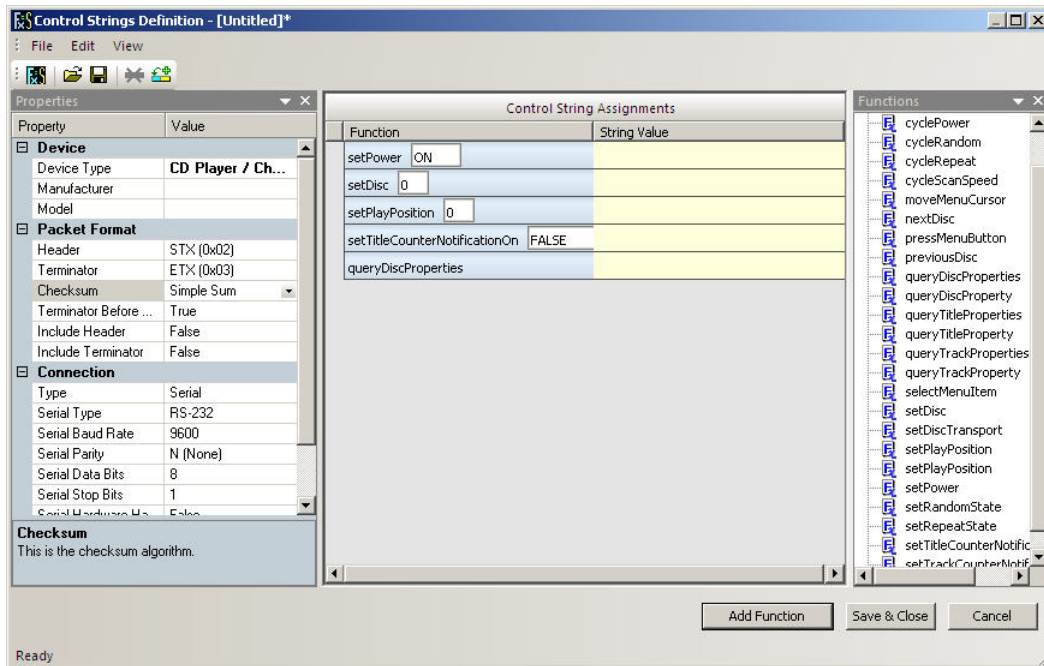

FIG. 40 Control Strings Definition dialog
- **Serial and IP Devices** - In order for Serial and IP Devices to be available for inclusion in your projects, each device must be represented in the Device Database with a Control Strings Definition (.CSD) file. The options in the *Control Strings Definition* dialog allow you to define control strings and create a new .CSD file, and add the .CSD file to the Device Database (FIG. 40):